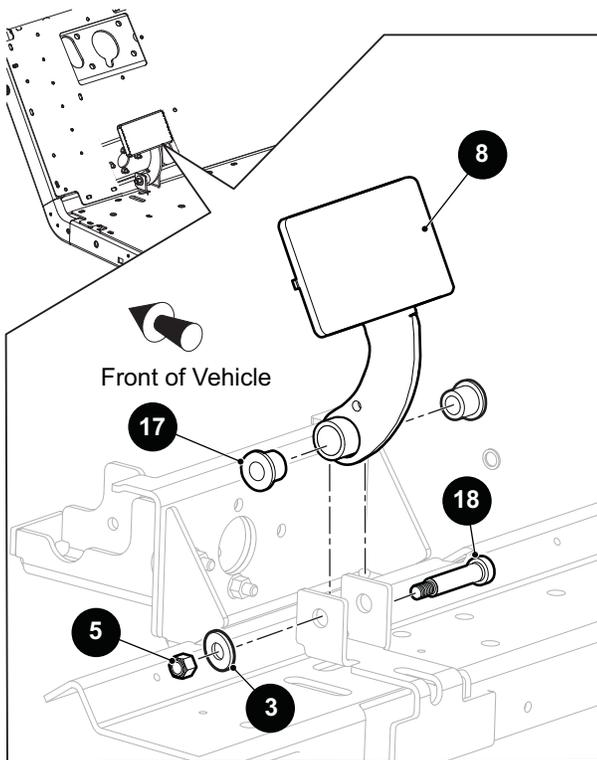

Fig. 7 Brake Pedal Removal
1. Disconnect the master cylinder shaft from the brake pedal (8). (See Master Cylinder Replacement on page 34)
2. Remove bolt (18), bushings (17), washers (3) and lock nut (5) (Fig. 7).